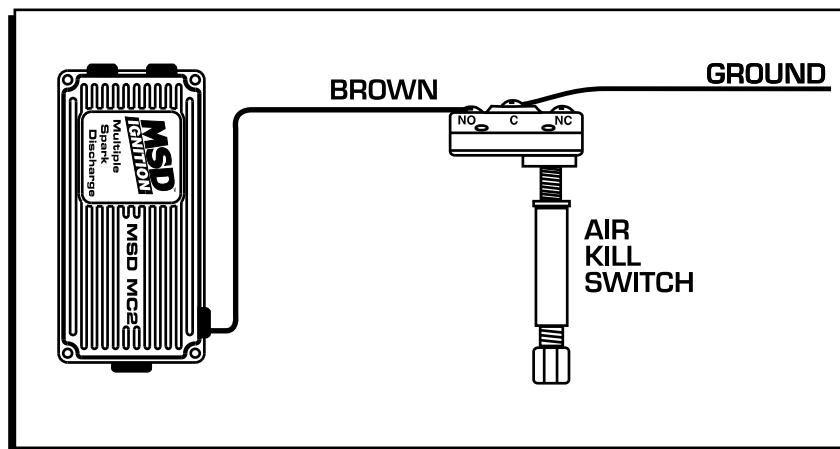

Figure 10 Wiring the Air Shift Interrupt Feature.
To incorporate the Interrupt feature, connect the BROWN wire of the MC-2 to the Normally Open (NO) terminal of the Shift "Kill" switch. Wire the common (C) terminal of the switch to ground (Figure 10).